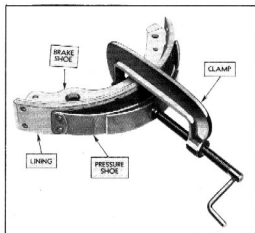

Fig. 18—Installing Brake Lining Clamp
- 4. In order to eliminate air pockets between lining and shoe which might cause uneven contact or squeaky brakes, a brake shoe lining clamp should be used to force the lining against the shoe, Fig. 18.